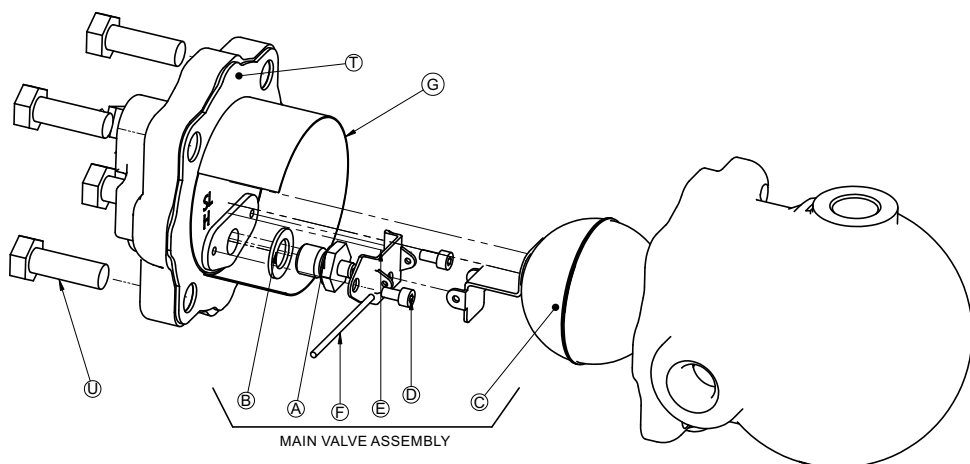

Figure 4: Exploded View of Forbes Marshall Liquid Drain Trap, FMLDT31
(Refer to Fig. 4) A tapping is provided at the top of the trap to fit the balancing line. When there is high load, there are chances of the trap getting air locked. The balancing line is connected back to the upstream of the trap so that the air collected inside the trap is displaced back in the system.
5. Installation Guidelines: (Refer to figure 4)
1. Unscrew cover bolts (2) and lift off the base (1).
2. Unscrew the assembly set screws (7), and dismantle the pivot frame (9).
3. Remove the valve seat (5) along with the valve seat gasket (8).
4. Replace the main valve assembly (A, B, C, D, E, F, G and T) as shown in figure 4 with a new one.
5. Refit the pivot frame (9) and tighten the assembly set screws (7).
6. Refit the cover (4) by using the cover bolts (2).